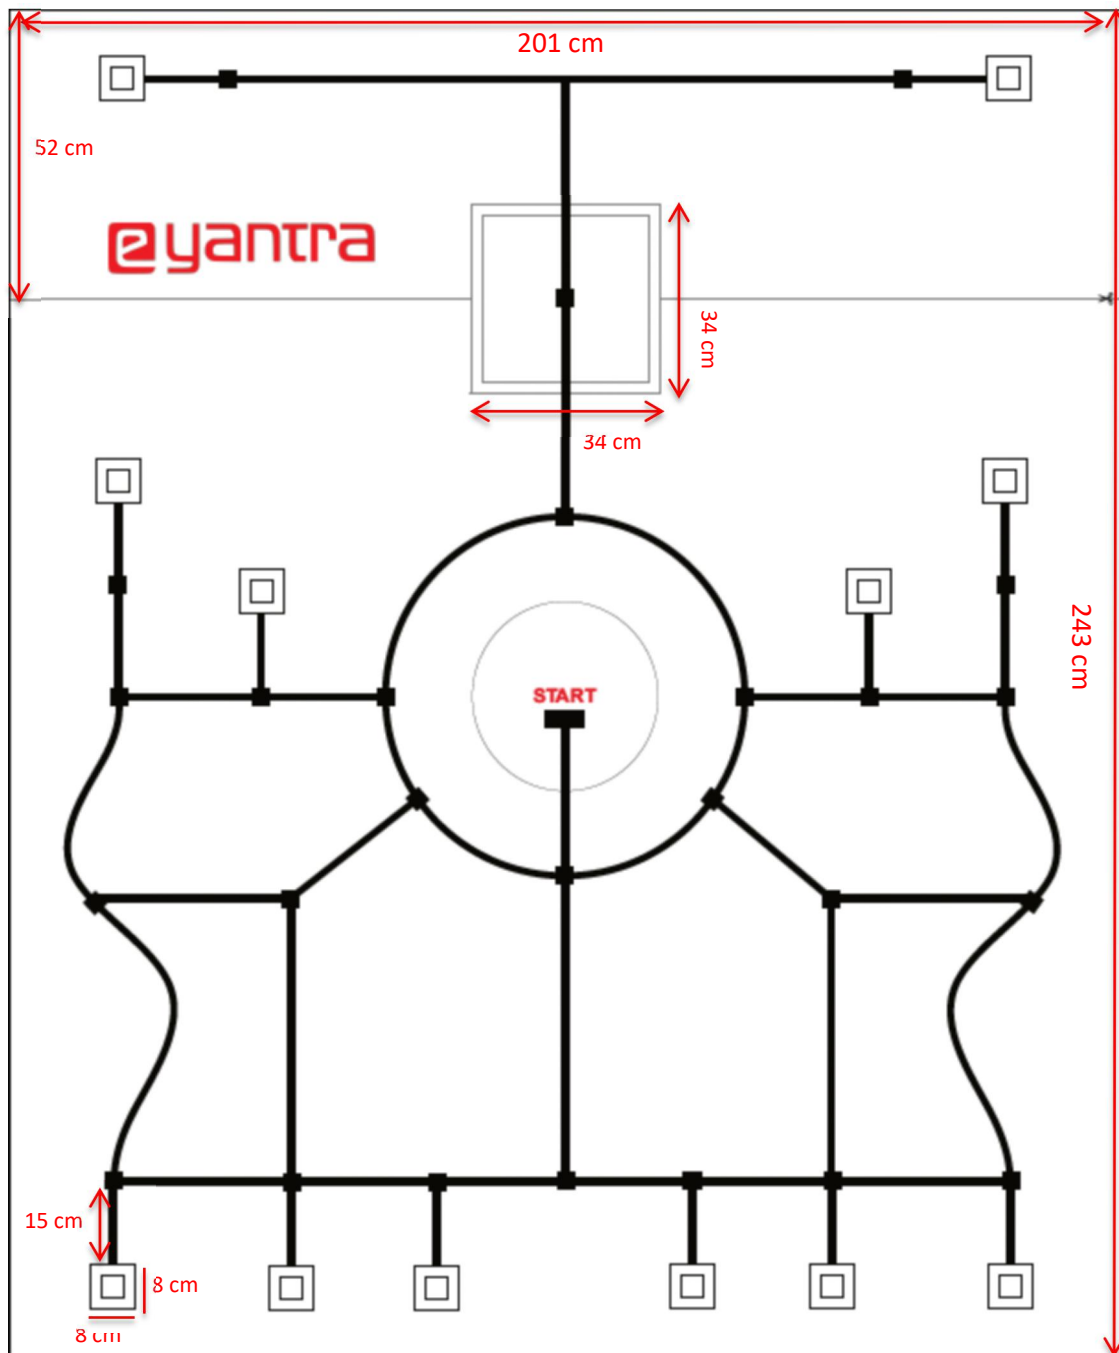

Figure 2: Arena with Dimension
- The layout of the arena is shown in Figure 2.